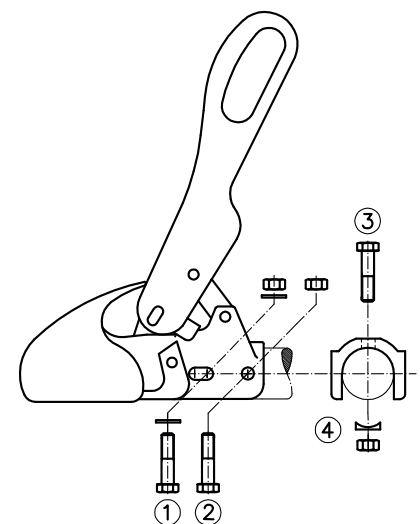

Fig. 3: Connection
The WS 3000-H/L/LB are specially designed for inertia braking systems and are fitted with crossways screw connection (1)+(3) and 40 mm hole spacing (Fig. 3). The fastening material is not included with the product.
2.2 If the WS 3000/3500 coupling is being used as replacement for another type of coupling, attention must be paid in respect of the overrun device that the shock absorbers are correctly fitted and that any spacers in the drawbar are correctly reinstalled. With the WS 3000-D, please use the provided Ø 12x34 mm or Ø 12x49 mm bolts to assist with this depending on the size of the drawbar diameter. Use Ø 14x63 mm bolts for the WS 3500-D. Please use the provided Ø 12x34 mm or Ø 12x49 mm bolts as to assist with this depending on the size of the drawbar diameter. Use bolts to push through when removing the fastening screw (2) or (3) (Fig. 3) depending on the type of shock absorber fastening, and insert in the drawbar for centering the shock absorber when connecting/dismantling the ball coupling. Remove the bolt again when inserting the new fastening screw.